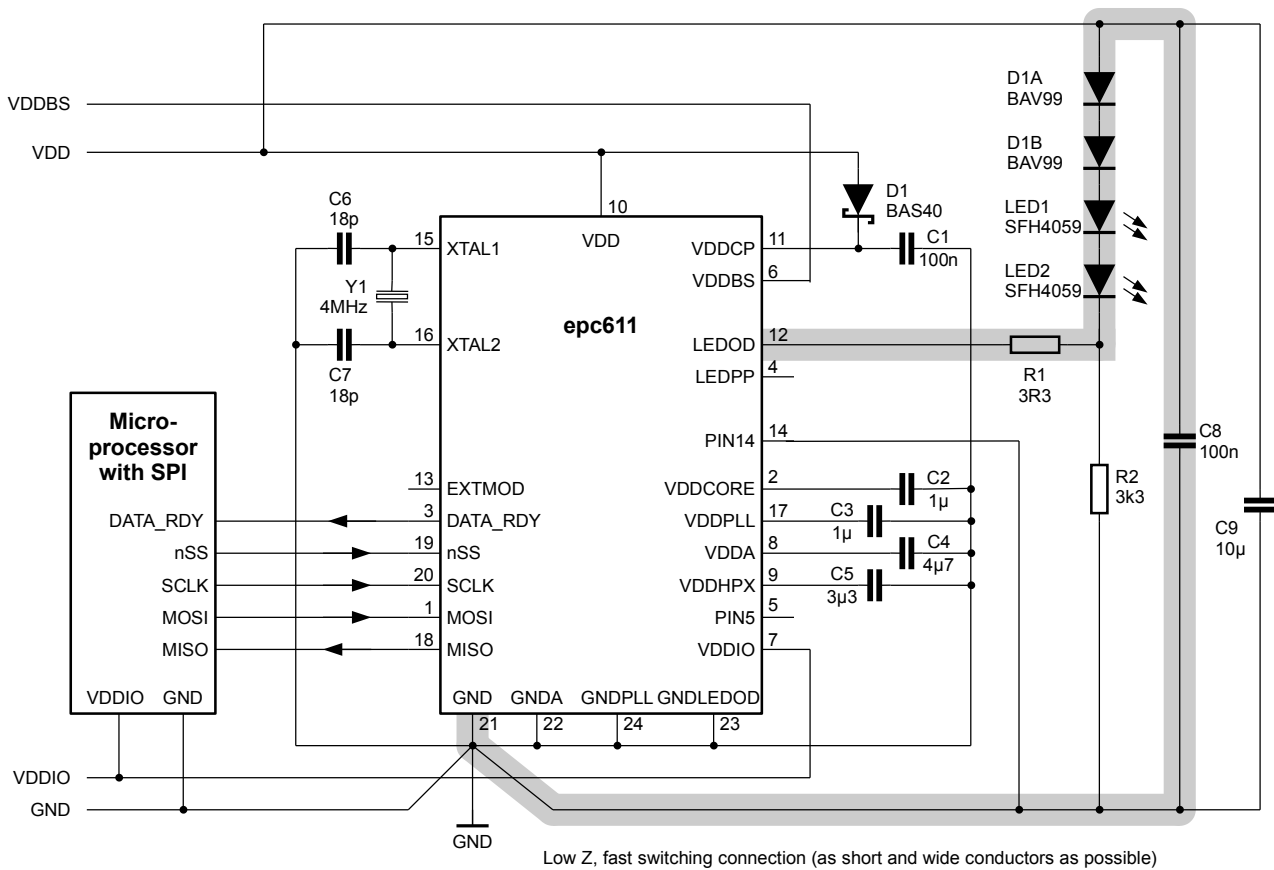

Figure 13: Typical application diagram
Table 11: Values of the components related to epc611 chip (Figure 13)
- Pins not listed here or explained later have to be connected according to Figure 13.
- XTAL1 and XTAL2 are the input/output pins of the internal oscillator. They can be used either with a 4.0 MHz crystal or resonator. The capacitor values C6 and C7 should follow the recommendation in the datasheet of the crystal or resonator (refer to Figure 13).
LEDOD is an open-drain nMOS FET driver output. This allows direct drive of illumination sources e.g. LD or LED. When the LED driver is active (ON), the LED current flows through the resistor R1 into the LEDOD pin, through the on-chip driver and comes out of the chip on the VSSLED ground pin (Figure 13).